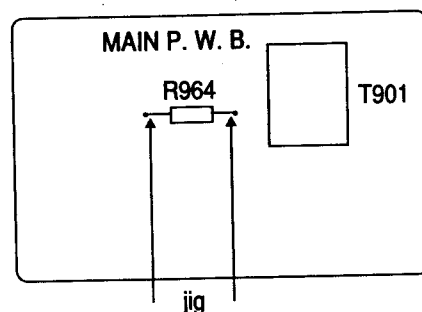

Fig. 1
5. Turn the switch of the set to off and connect the jig shown in Fig. 3 at both ends of R964 as shown in Fig. 1.